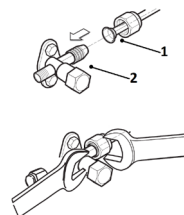

fig. 17
- Match the ends of the previously flared pipe (fig. 17 part 1) with those of the connections on the indoor units or on the cocks of the outdoor units (fig 17 part 2).